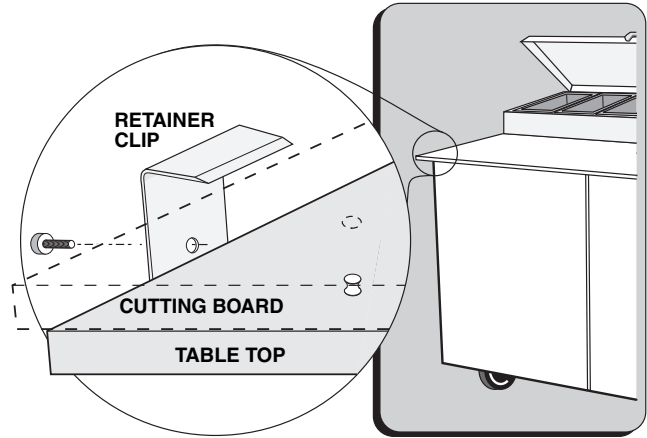

Figure 1.
- C. Align cutting board with Rivnuts and attach retainer clip to table top (figure 1).